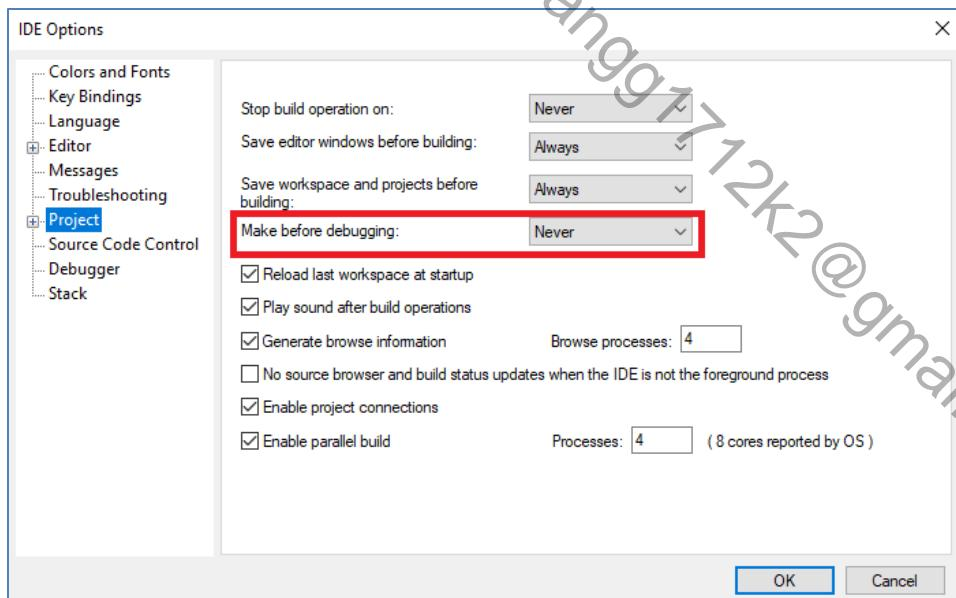

Fig 6-7 KMO processor options
- (1) Open **project\realtek_amebaD_va0_example\EWARM-RELEASE\Project_ip_release.eww**.
- (2) Make sure km0_bootloader and km0_application are in Workspace. Click Project > Options, General Options > Target > Processor Variant > Core, verify the CPU configurations according to Fig 6-7.